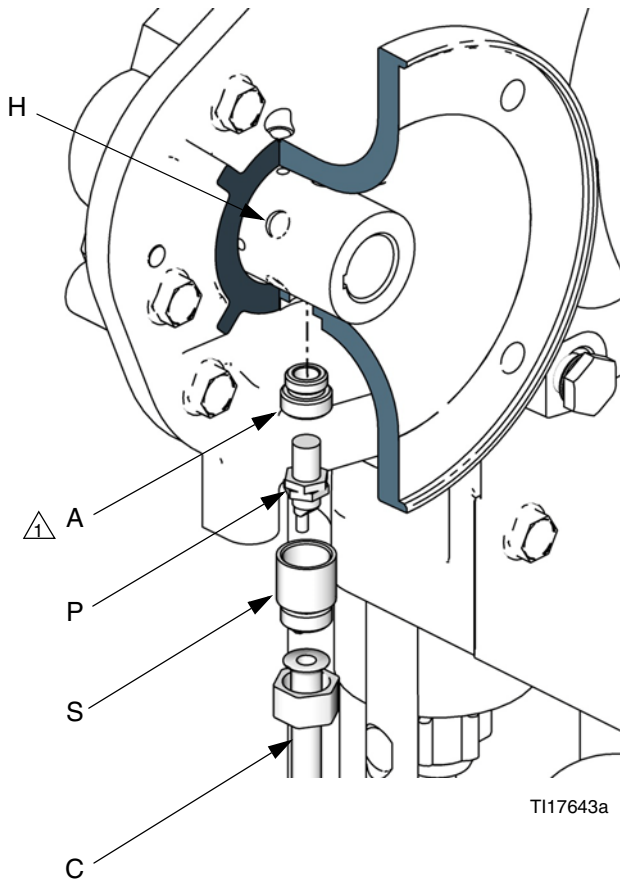

FIG. 5. Install the Position Sensor
See FIG. 5 on page 4. The position sensor requires a new style coupler with five machined sensing holes (H). See manual 311605 to select the correct coupler for your motor frame, and install the coupler as directed.
4. See FIG. 5 on page 4. Slide the position sensor sleeve (S) onto the position sensor (P) cable.
8. See FIG. 5. Apply thread lubricant and install the position sensor adapter (A) into the tapped hole. Torque to 75-80 ft-lb (102-108 N•m).